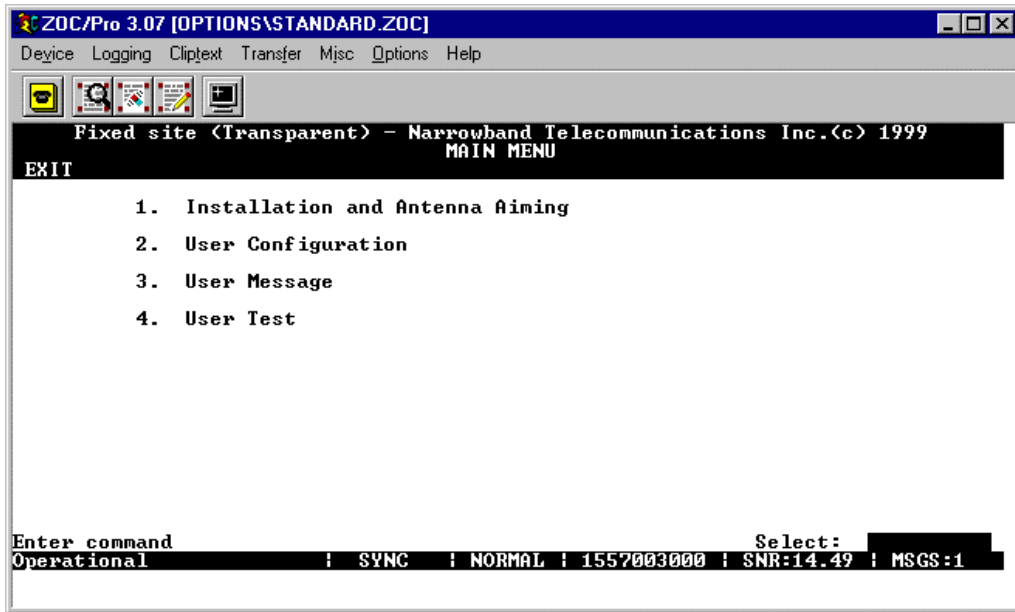
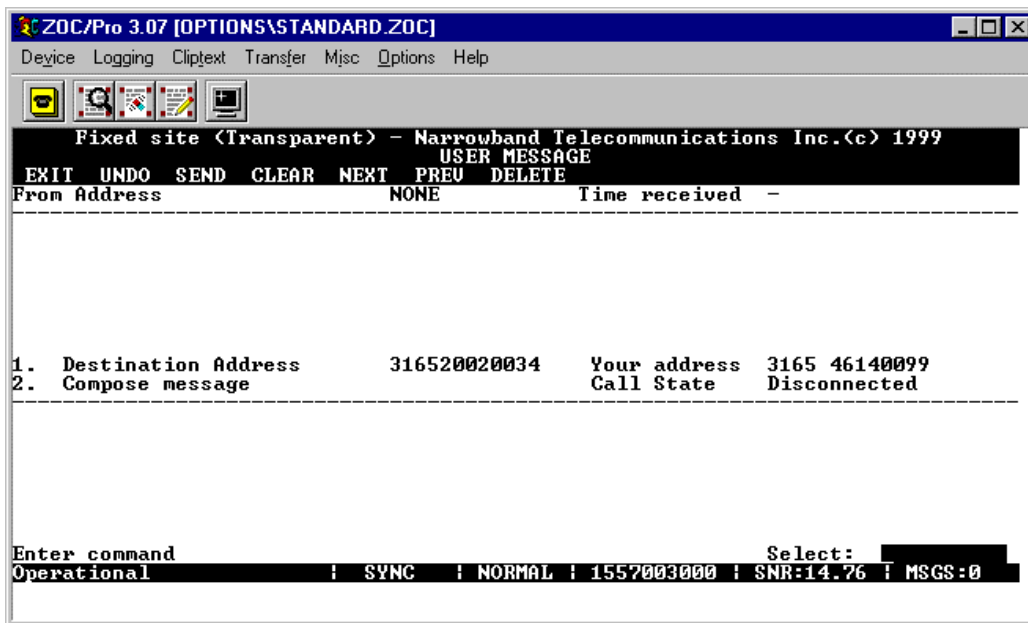

Figure 5. Main Menu window
Figure 7. User Message window
7. To complete the logon, type "S" (for save) in the *Select* field and press the **Enter** key. The *Main Menu* window (see figure 5) is displayed.
12. To navigate to another window or logoff the system, type “E” (for exit) in the *Select* field and press the **Enter** key. The *Main Menu* window (see figure 5) is displayed.
1. Select option “3” *User Message*” from the *Main Menu* window (see figure 5) by typing “3” in the *Select* field. Press the **Enter** key. The *User Message*” window (see figure 7) is displayed.